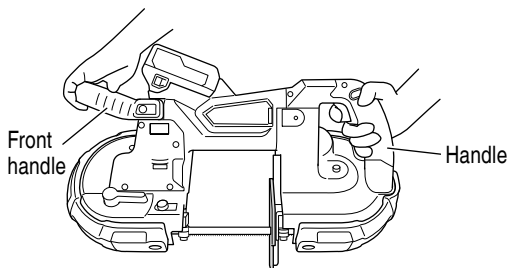

Fig. 1
1. Always hold the tool firmly with both hands on handle and front handle (Fig. 1). Do not touch the metal part.